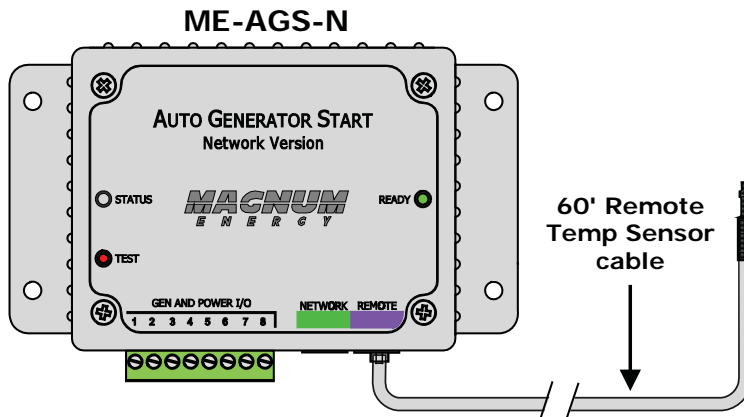

Figure 2-3, Remote Temp Sensor Connection
- 7 **REMOTE Connection Port (purple label):** a RJ14 port (6P6C - 6-position, 6-contact female connection) that provides the connection point for the remote temp sensor cable (Figure 2-3).
If using the temp autostart feature, connect the plug-in end of the temp sensor cable to the REMOTE (purple) port of the AGS controller, and then place the other end (with sensor) in the area you wish to monitor (see Figure 2-3). The temp sensor cable is 60 ft long.